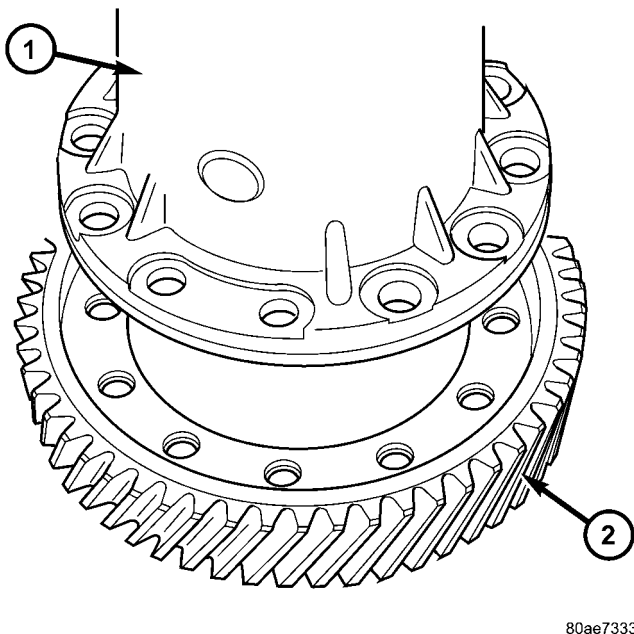

Fig. 195 Ring Gear Installation
(8) Install differential ring gear to case (Fig. 195).